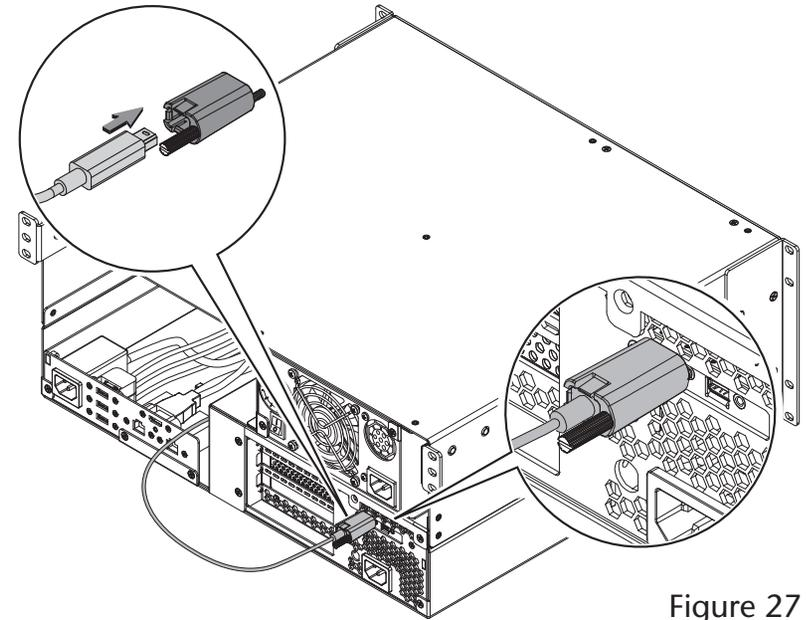

Figure 27
To attach the clip to the cable, remove them from their packaging, and then insert the connector into the connector clip as shown (Figure 27). Note that the connector will pass all the way through the clip; when you connect the cable to the module, the clip will secure the cable.
12. Plug in the included Thunderbolt cable to either Thunderbolt port on the PCIe card expansion module (Figure 27). Secure the retainer clip to the chassis if you attached it.